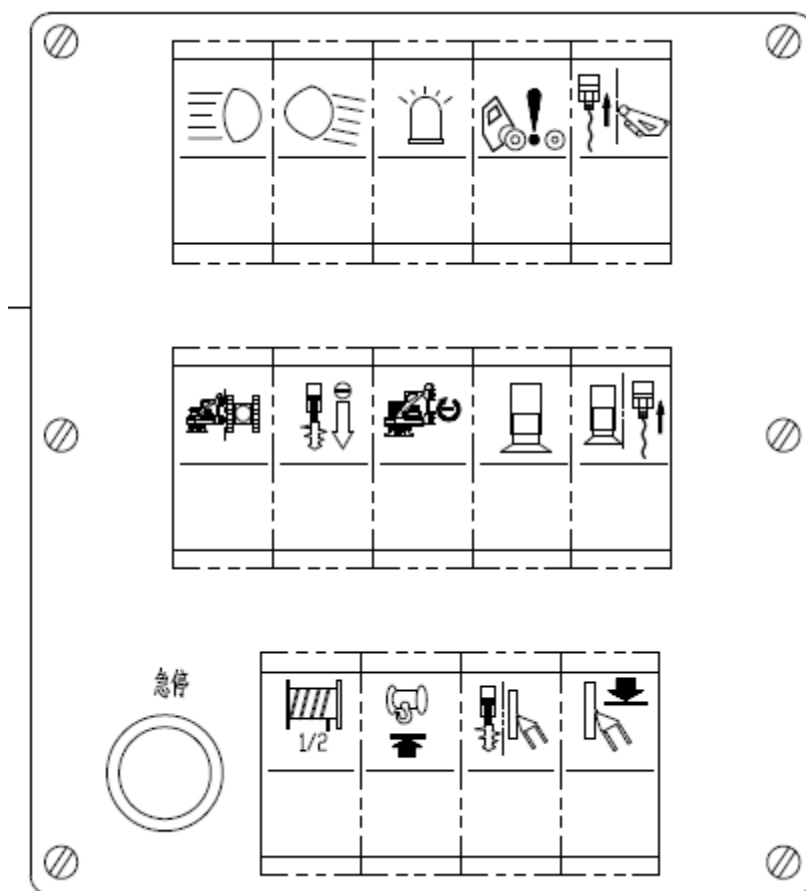
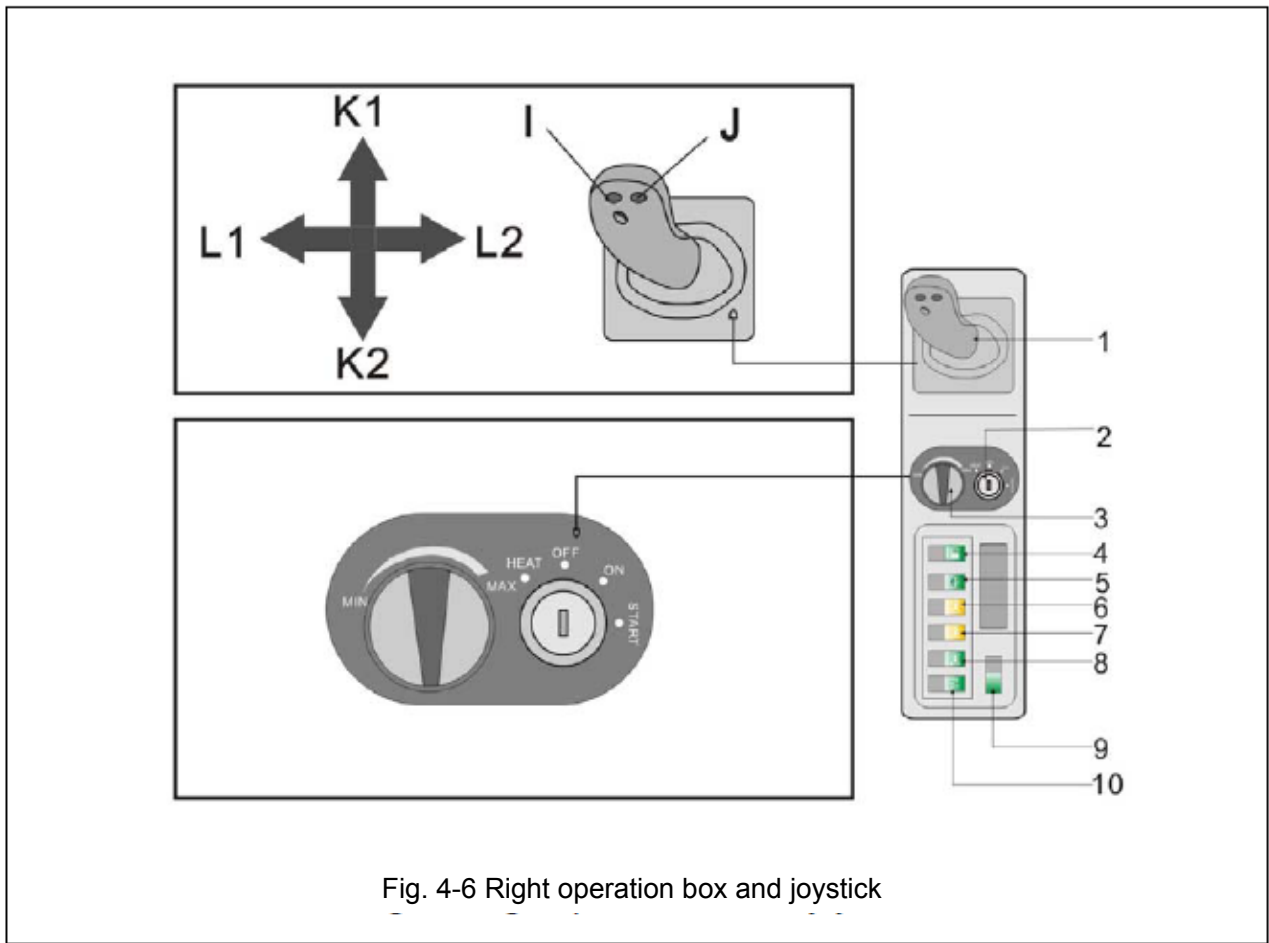

Fig. 4-4 Control panel
Fig. 4-6 Right operation box and joystick
If the complete drilling rig is equipped with outrigger cylinder, when it needs to operate the outrigger cylinder, switch button No. 9 in Fig 4-4 to the crawler position and switch button No. 2 in the same figure to the outrigger cylinder position first. Then operate joystick No. 1 in Fig. 4-6, and the extension and retraction of the outrigger cylinder can be achieved. When it needs to operate the crawler, switch both button No. 9 and button No. 2 in Fig. 4-4 to the crawler position, and then operate joystick No. 1 in Fig.4-6.
- (1) When the drilling rig's operators are in place, set the traveling locking knob (No.4 in Fig. 4-4) on the electrical appliance control panel to the working position (see Fig. 5-4).
- (3) Turn the control knob of the engine's throttle clockwise (No. 2 in Fig. 4-6). Make sure that the engine's rotation speed rises steadily to and maintains within the range of 1900-2000 rpm.
- (1) If the center of the mast is further than 4950 mm from the slewing platform center, no matter how you pull the joystick, the derricking mechanism will not act, and indication lamp No. 7 in Fig. 4-4 is on. This indicates the safe protection function of the derricking limit is working. At the same time, turn switch No. 7 in Fig. 4-4 to the "Derricking limit disable" position (see Fig. 5-6), and then operate No. 1 in Fig. 4-6.